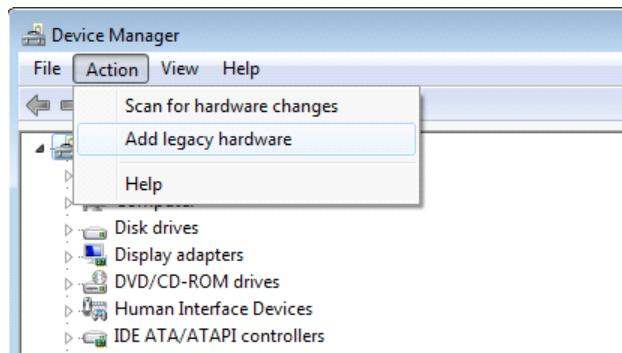

Figure 31 Adding Legacy Hardware
- d. Start the "Add legacy hardware" process from the "Action" menu as shown in Figure 31.